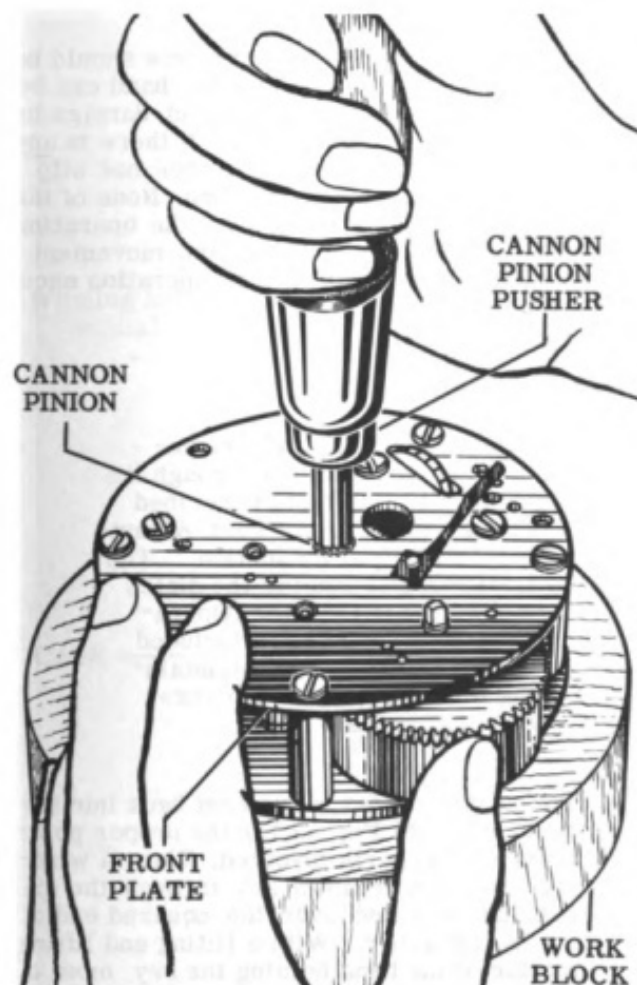

Figure 69
23. Press on the cannon pinion with the special cannon pinion pusher (Tool No. 19A) as shown in Fig. 69 and indicated in the "Special Service Tools" section.